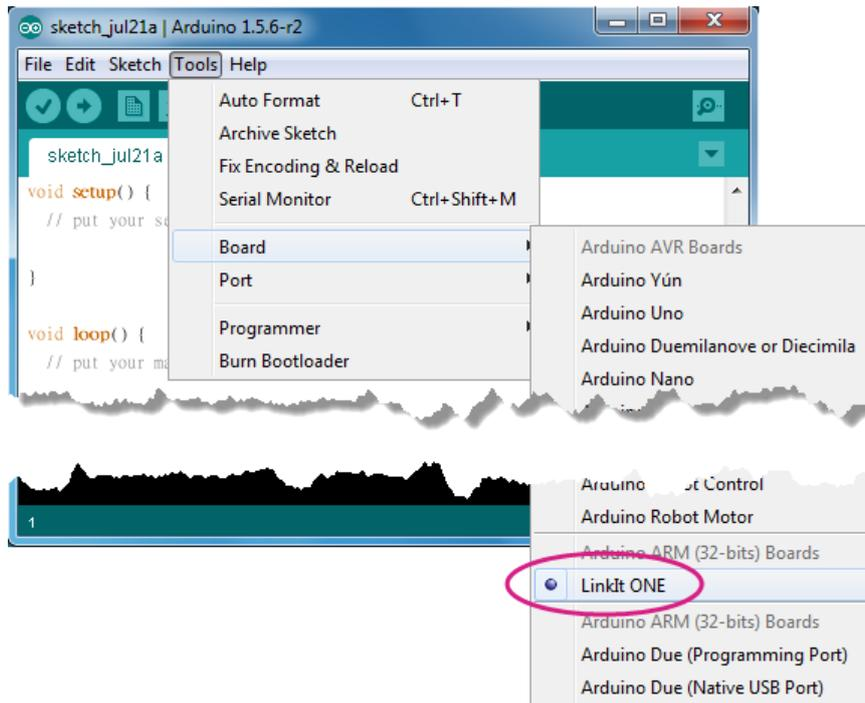

Figure 7 The menu option for configuring the LinkIt ONE development board
- 2) In Arduino IDE, on the **Tools** menu point to **Board** and click **LinkIt ONE**, as shown in Figure 7, to configure the board as the target.